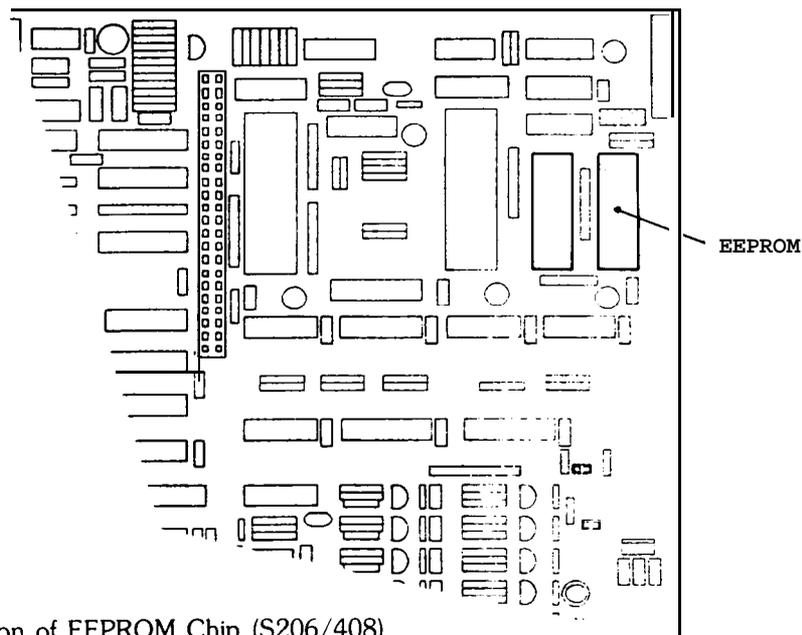

Figure 3.2 Position of EEPROM Chip (S206/408)
- (1) Switch off mains power and remove power cord from power point.
- (2) Disconnect the two cable connectors between the KCM and the main PCB and loosen the KCM mounting screws.
- (3) Remove and lay back the KCM with the intact wiring.
- (4) Remove the main equipment from the wall.
- (5) Fit the new main equipment and connect the KCM.
- (6) Carefully swap the customer data EEPROM between the systems. See Figure 3.2 for location.
- (7) Connect power and switch on.
- (8) **DO NOT REINITIALISE THE SYSTEM.**
- (9) Make a record of the new sequential serial number in the Customer Data Record Book.